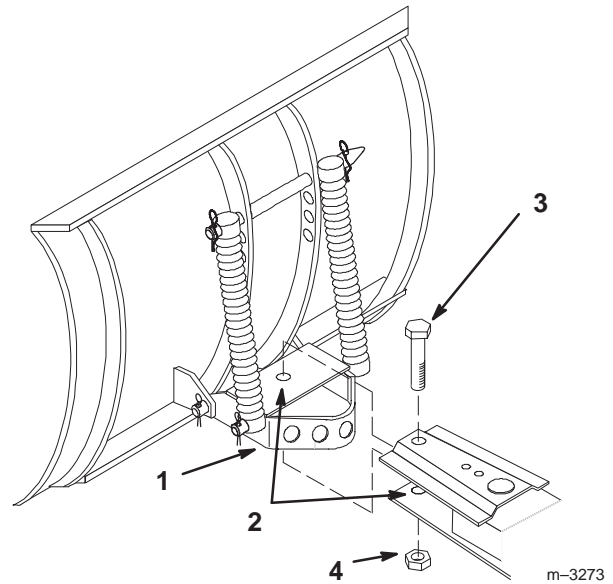

Figure 3
3. Apply general purpose grease to the pivot area of the frame and channel. Slide the channel between the frame mount and secure it with a 3/4-16 x 3-3/4 in. (95 mm) bolt, down from the top, and 3/4 in. locknut (Fig. 3).